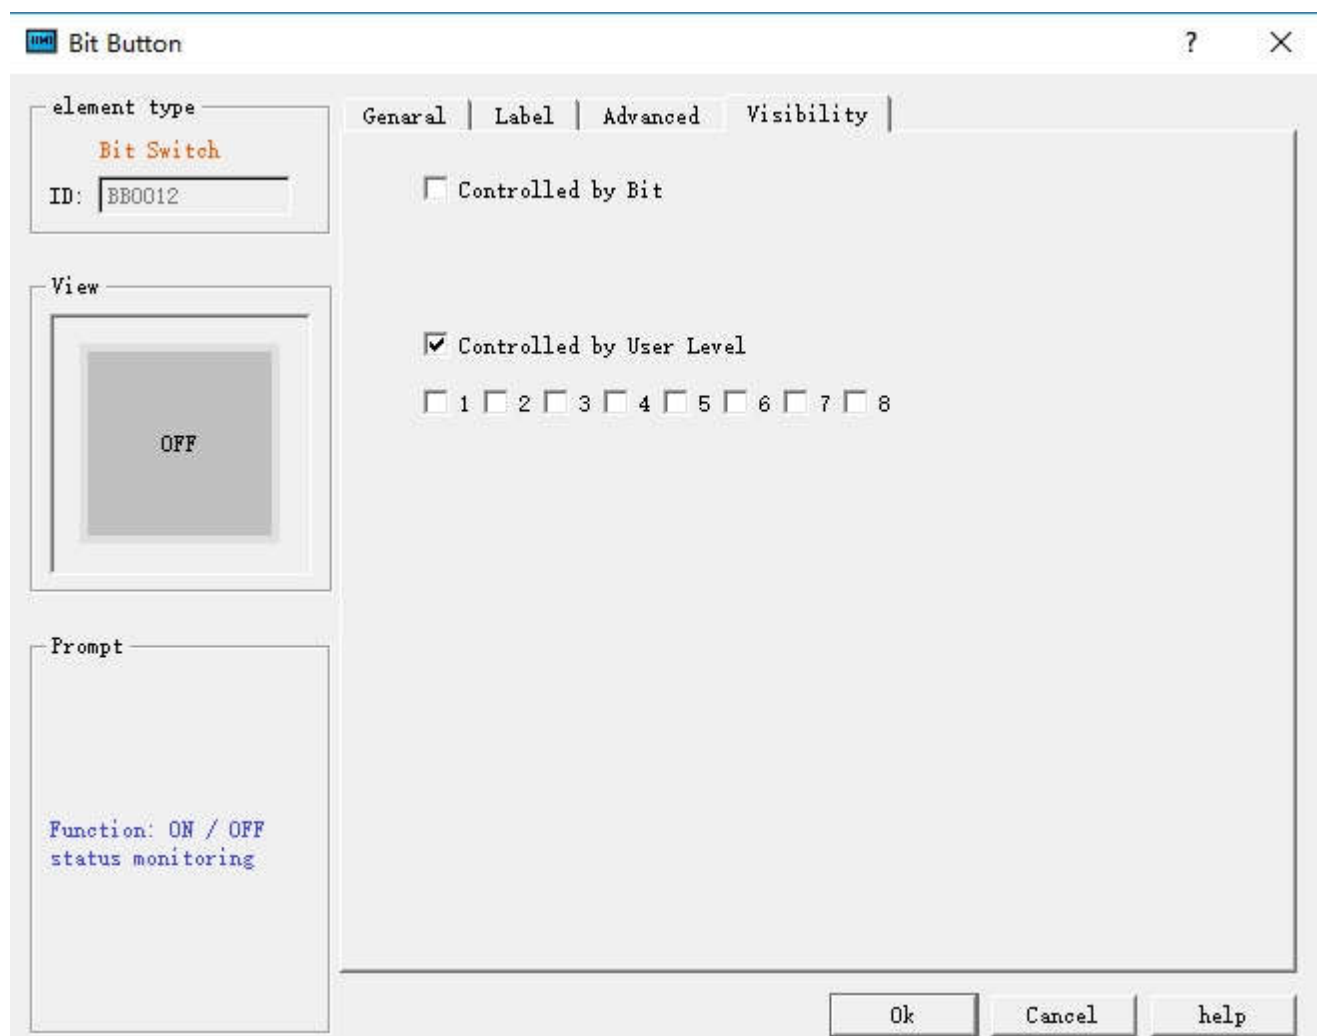

Figure 4-71 Bit Button Visibility page
- ◆ **Write Address:** Click the Keyboard button icon after "Write Address" to enter the address. HMITOOL software will distribute corresponding address symbols according to different connected devices. For example, in FX-2N series of MITSUBISHI (Mitsubishi) PLC, X represents the address of input coil; Y represents that of the output coil; M that of the intermediate relay; C that of the counter (switch status display); T that of the timer (switch Status display); D that of the data register; C \* that of the counter (count value); T \* represents that of the timer (count value). Another example is the series of SIEMENS (Siemens) S7-200: I represents the input address; Q on behalf of the output address; M on behalf of the intermediate relay address; V on behalf of the data register address. As shown in Figure 4-71:
Select the "Show" page to display the "Show" property, which is used to set whether the control is displayed or hidden. As shown in Figure 4-71